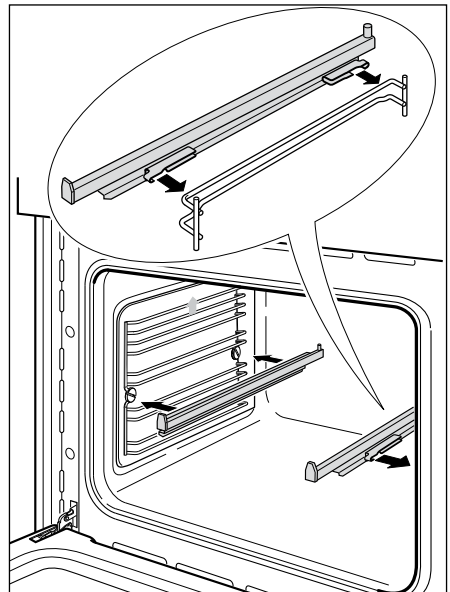

Fig.58 Refitting the sliding shelf supports
- 2 Fit the sliding shelf support onto the top wire of a rack and press (Fig. 58). You will hear a click as the safety locks clip over the wire.
- *the slides so that they run out towards the oven door, as shown in Fig. 58.*